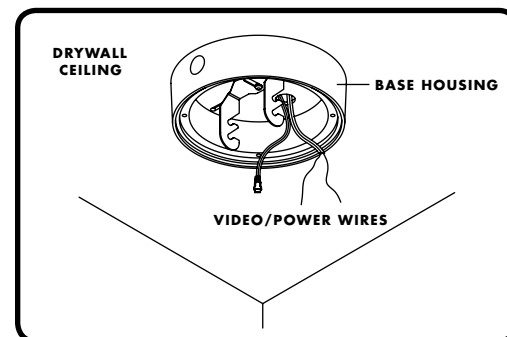

FIGURE 4
- Pull video and power wires into the base housing, and attach the base housing to the wall or ceiling using #8 toggle bolts [FIGURE 4].